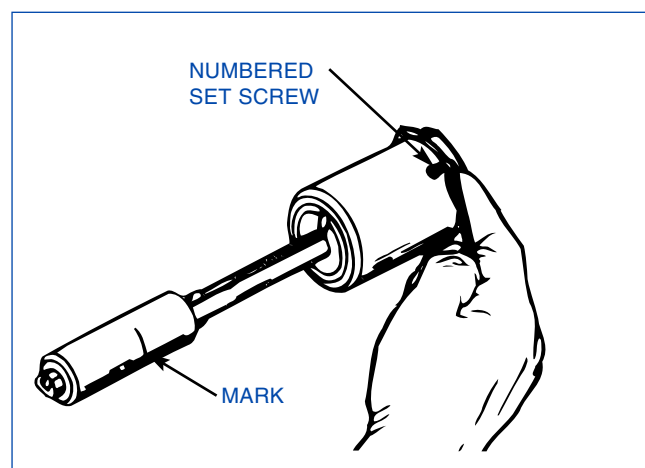

FIGURE 2-13, Numbered Set Screws
28. Loosen Numbered Set Screws in Spindle Nose on same side as pencil marks; and tighten Numbered Set Screws on opposite side (see Figure 2-13).